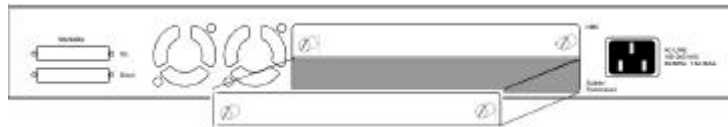

Figure 3.1 Removing the Blank Module Panel
3. Remove the installed bridge module or blank cover of the expansion module slot (not the NMU slot, only the bottom slot is available) by turning the two knobs on the front counterclockwise as shown in Figure 3.1.